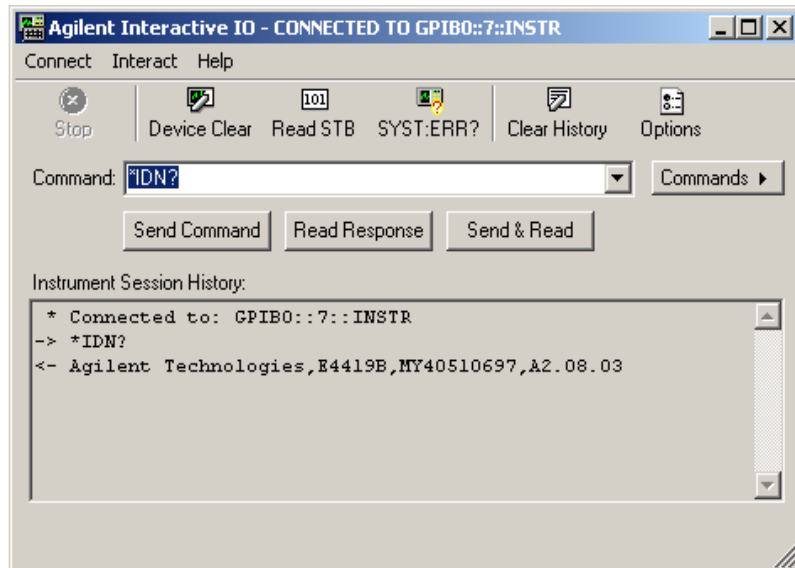

Figure 1-13 Agilent Interactive IO window
- 2 Right-click the instrument and click **Send Commands To This Instrument** to display the **Interactive IO** window as shown in Figure 1-13. For information of the **Interactive IO**, including a list of common commands and the commands' description, click **Help > Help Topics**.